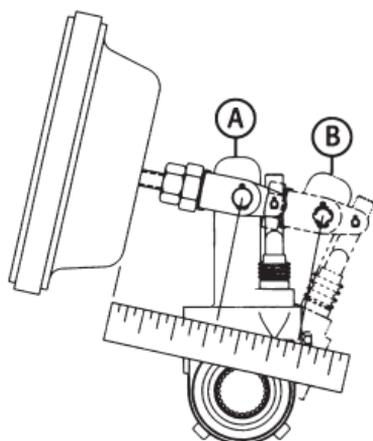

Figure 5 – Measuring Maximum Stroke
7. Using a ruler, measure the distance from the face of the air chamber to the center of the large pin in the clevis (A) (See fig. 5). Make an 85 psi brake application and allow the air chamber to travel its maximum stroke. Measure to the center of the large pin (B). The difference between (A) and (B) is the push rod stroke. Check the following charts for proper maximum stroke after adjustment of the brakes.